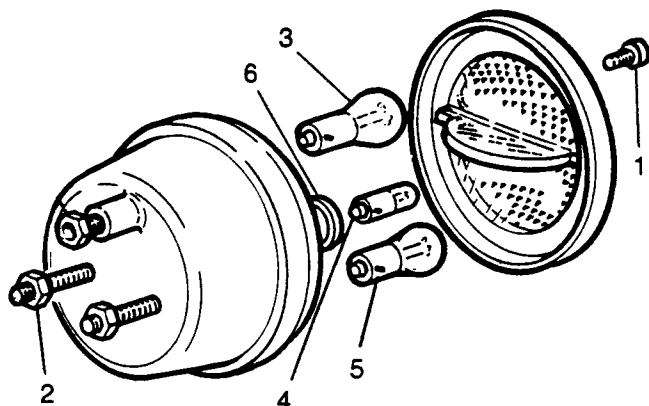

Fig O5.12
- (2) Refer to Fig O5.12. Remove the lens fixings (two screws) (1) and pull off the lens.
- (3) Remove the bulbs if required.
- (4) Remove the fixings for the cover in the rear of the load area behind the lamp (two self tapping screws and one nut) and lift the cover away.
- (5) Disconnect the lamp leads at the snap connectors, making a note of the socket each connector comes from.
- (6) Remove the two bolts (2) holding the lamp to the wall and pull the lamp body away.